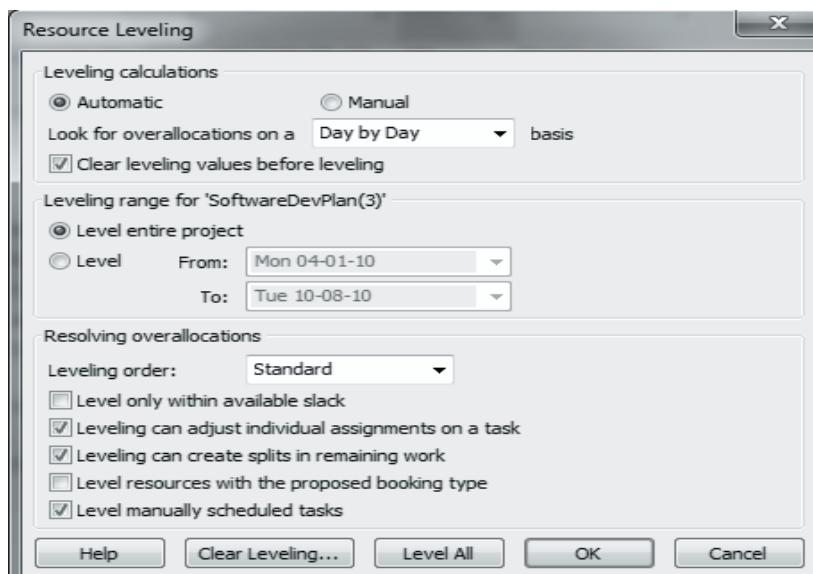

Figure 10.18: Leveling Overallocated Resources Using Resource Leveling Dialog Box
2. In the **Resource** tab, click **Leveling Options** on the Ribbon to display **Resource Leveling** dialog box as shown in figure 10.18.